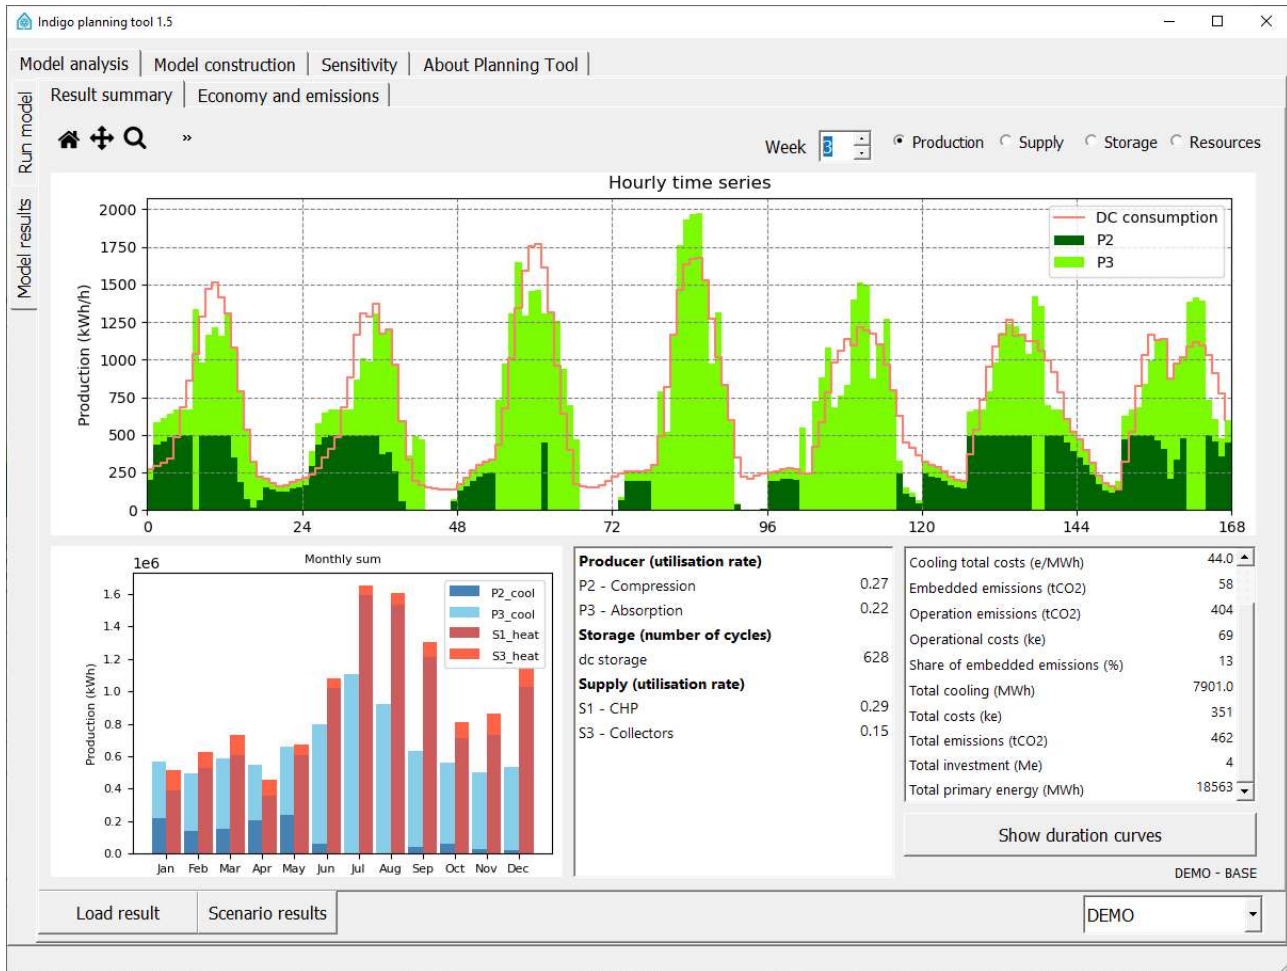

Figure 31. Result summary.
After running the model and having received a feasible solution, model results can be examined in **Model results** tab (see Figure 31). In this tab there are two result sections:
**Result summary** (see Figure 31) contains four result sections and one functional button: